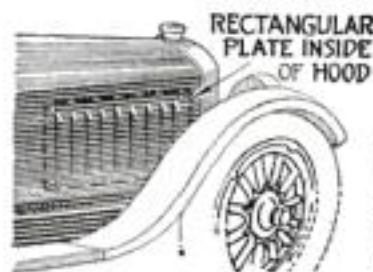

Fig. 4. Metal or plywood plates fastened to the inside of your hood as shown will help keep the motor warm when the car is left standing
**A** RADIATOR cover of the conventional type serves to regulate the amount of air that flows through the radiator while the car is in motion, but it cannot keep the motor warm for very long when the car is standing, owing to loss of heat through the openings in the side of the hood which permit the air to circulate freely. Metal or plywood plates bolted on the inside of the hood as shown in Fig. 4 will stop this waste and also help to keep your feet warm by driving the heated air back through the openings in the floor boards.